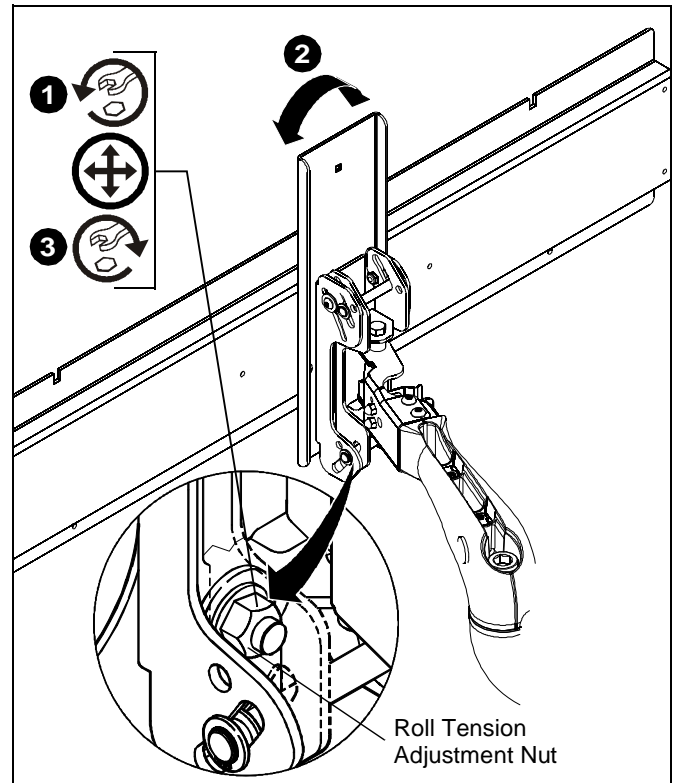

Figure 6
1. Loosen the roll tension adjustment nut located on the back side of the faceplate assembly. (See Figure 6)
3. Tighten roll tension adjustment nut. (See Figure 6)